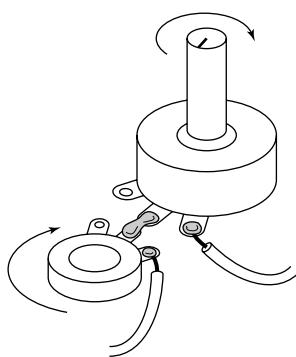

FIGURE 9-24: Turn trimmer dial away from an outside wired lug; turn main pot shaft toward an outside wired lug.
2. Turn the trimmer's dial to full resistance (away from an outside wired lug) and turn the large pot's dial to no resistance (toward an outside wired lug, see Figure 9-24).